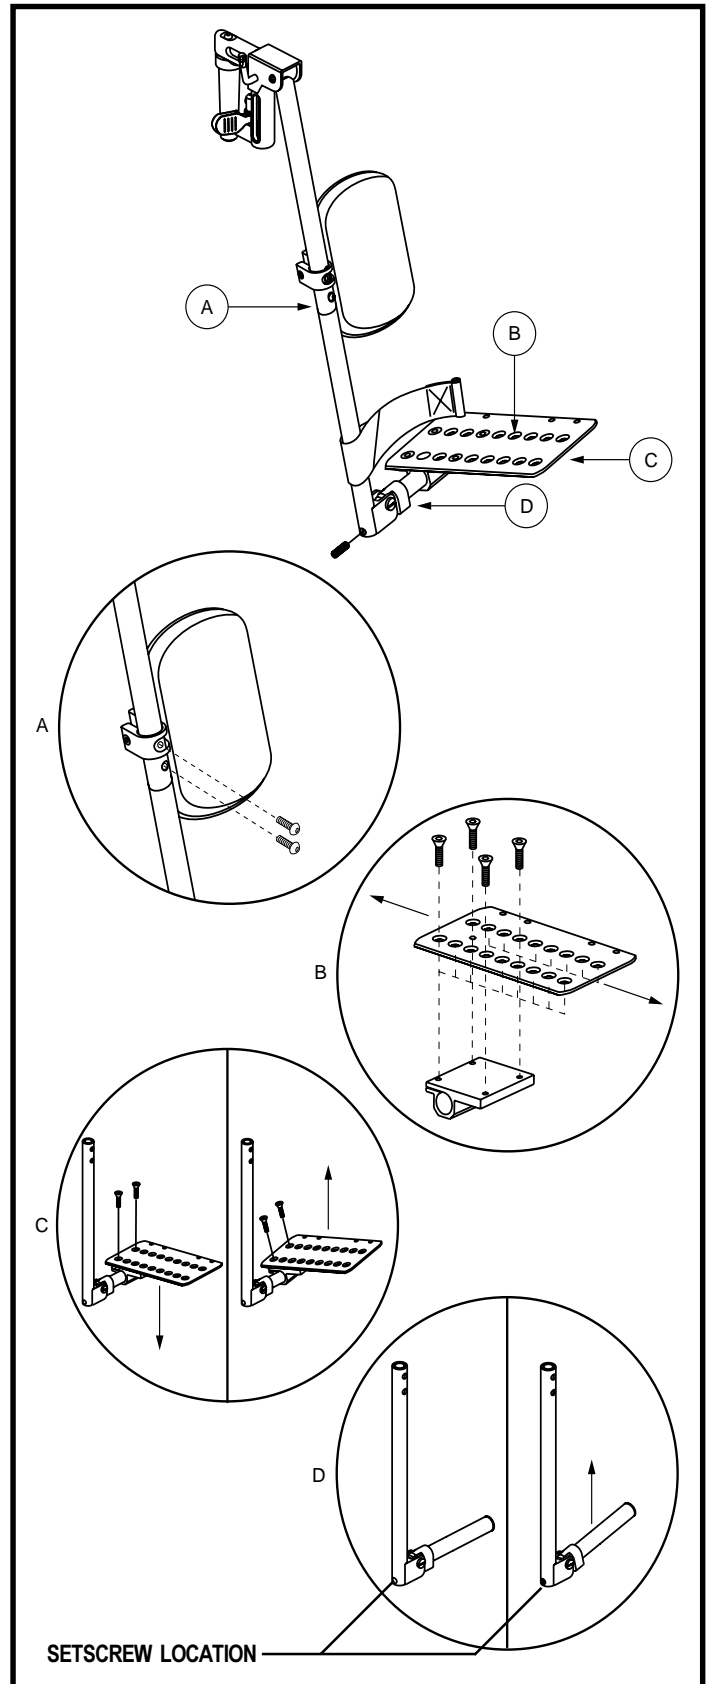

Figure 22. Multi-Axis Foot Plate (ELR Shown)
The multi-axis foot plate assembly can be installed on either a swing-away footrest or an elevating leg rest. The multi-axis foot plate has four adjustments: leg rest length (A), position (B), tilt (C), and angle (D). See figure 22.
The electronic controller is what you use to operate your power chair. It takes the battery voltage and sends it to the appropriate system. The electronic controller enables you to move the power chair, as well as monitor battery charge, electronic controller functions, and the condition of your electrical system. The FLIGHT is part of a modular electronic controller system. The system consists of more than one module. Typically, the FLIGHT is mounted to one of the armrests. See figure 22. It is connected to a power module located on the power base through the controller communications cable. The FLIGHT may be used to control some optional systems, such as lights.